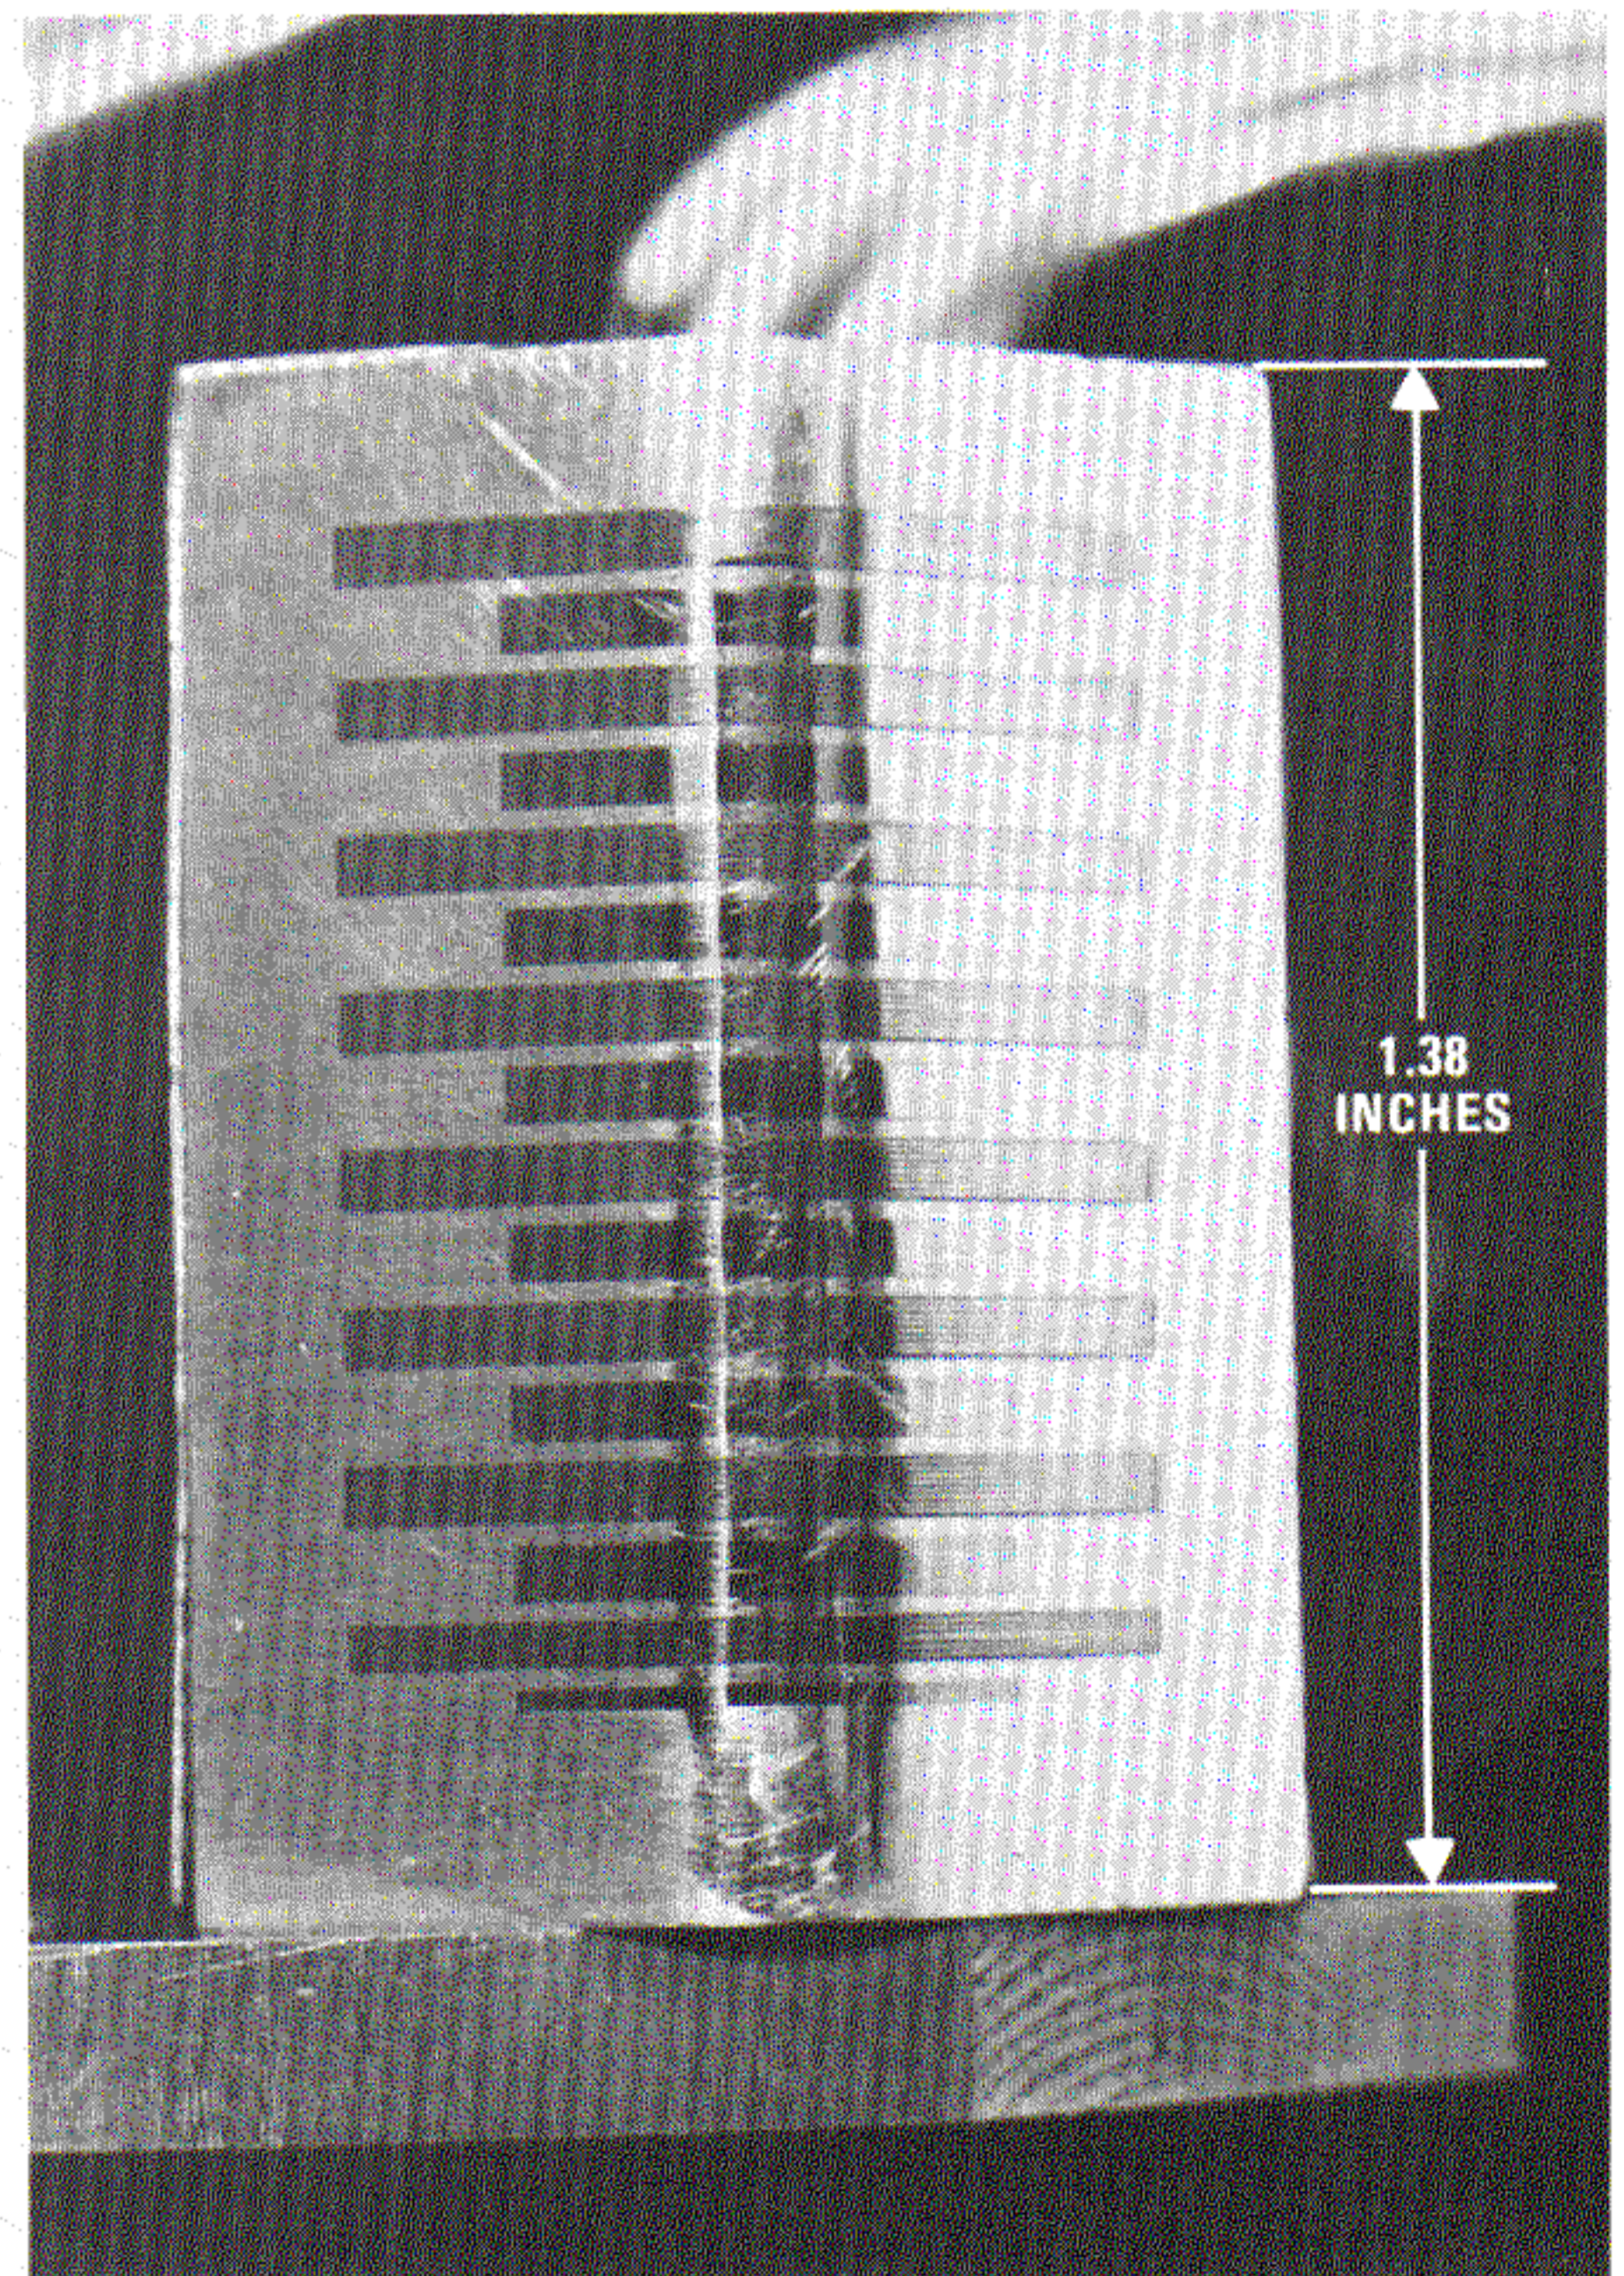

Figure 32. Magnetic Head with Scratches on Head Face.
2. The tip of the degausser should be protected with a plastic cap or guarded in some other manner. Without such protection, the heads most likely will be scratched by the tip of the tool during the degaussing operation. Figure 32 shows a badly scratched tape head.